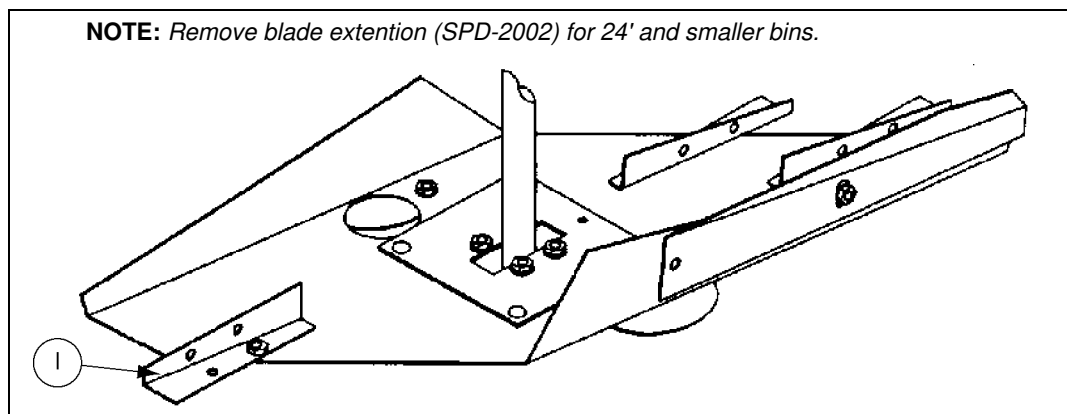

Figure 3B The diverter segments on the blade.
3. Remove blade extension from blade assembly for 24' diameter bins and smaller. *(See Figure 3B.)*
4. Turn the three (3) spreader diverters (I) outward. The diverters on the blade assembly are turned inward for shipping purposes. Further adjustments may be required after installation. *(See Figure 3B.)*